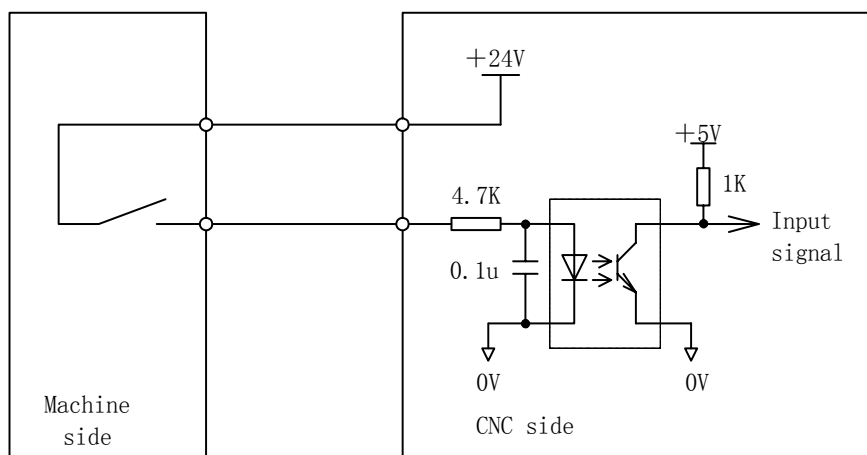

Fig. 3-2-1
b) Signal loop of this kind of signal is shown in Fig. 3-2-1